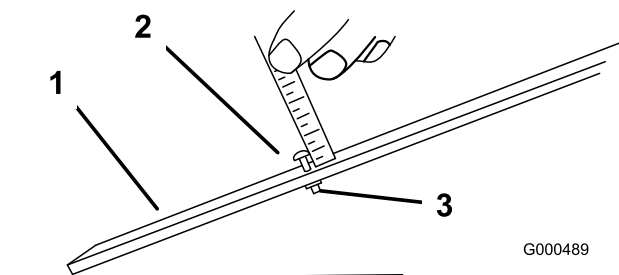

Figure 10
2. Loosen the nut on the gauge bar and set the adjusting screw to the desired height-of-cut (Figure 10). The distance between the bottom of the screw head and the face of bar is the height of cut.